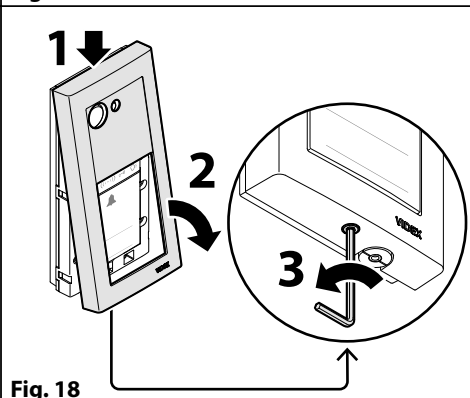

Fig. 18
6. Reassemble the frame placing it first on the top side, then fix again the fixing screw by turning it anti-clockwise (Fig. 18).